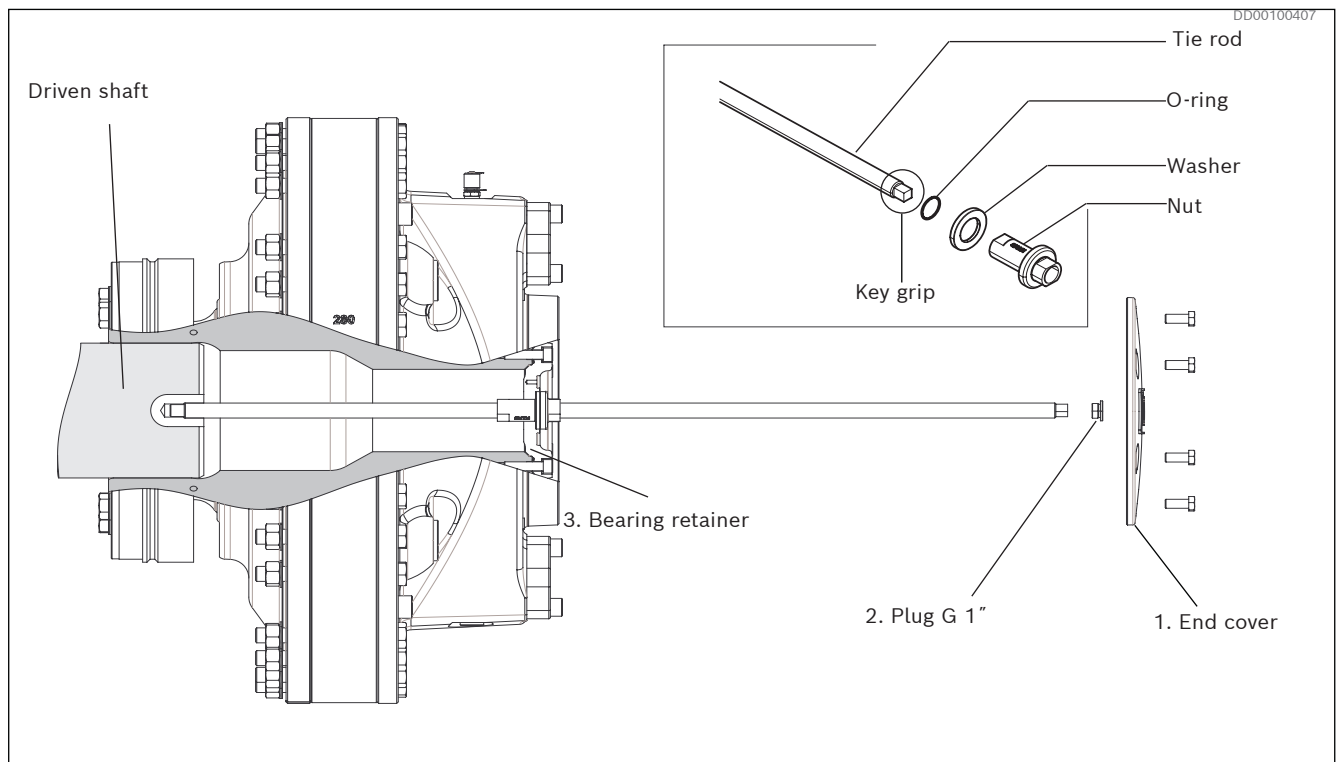

Fig. 40: Mounting of coupling motor with assembly tool
1. Remove the end cover (1) together with screws and washers.
2. Remove the plug G1" (2).
4. Install the assembly tool by passing the tie rod through the centre of the motor, and screw it into the driven shaft by using a wrench at the key grip at the end of the assembly tool. Assemble the washer and then the nut tight to the bearing retainer (3). See *Fig. 40*.